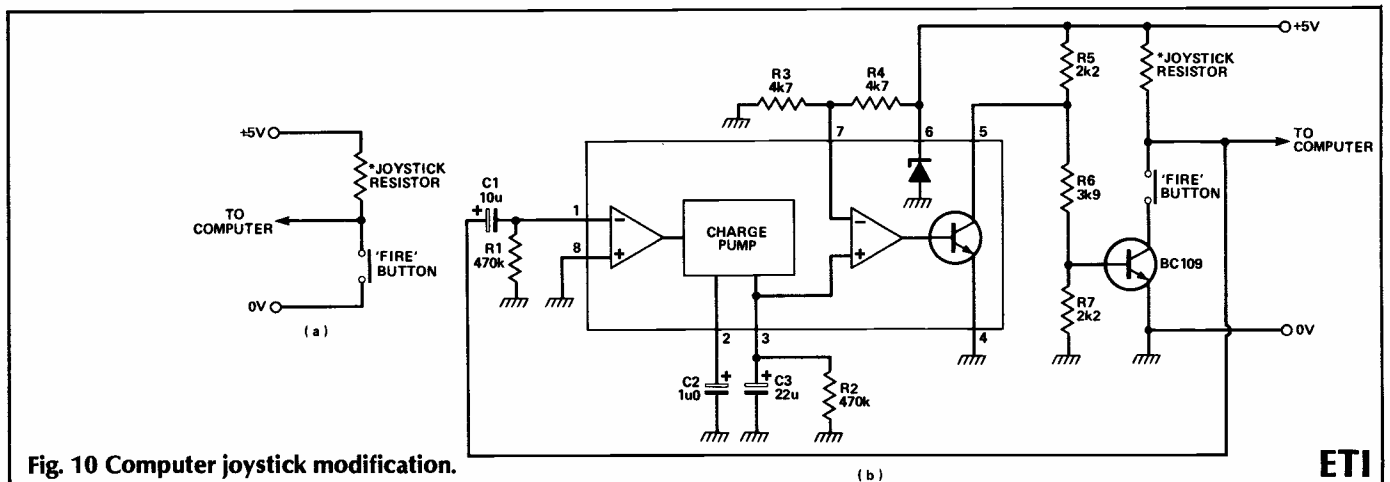

Fig. 10 Computer joystick modification.
4) On many zap-the-alien type computer games, the players have unlimited shots. You can add a new edge to old games with the circuit of Fig. 10. If you haven't take any pot shots for a while, $C2$ will have discharged via $R2$ and will be close to 0V. When you start to shoot, $C3$ will charge up in steps, as in the staircase type circuits mentioned above. This means that you can shoot as fast as you like ... for a while. As soon as the voltage across $C3$ approaches the cut-off point, you'll have to ease up.
Although the IC has a 7.5V internal regulator, it can be used with supplies down to 4 or 5V (Fig. 10). The lack of